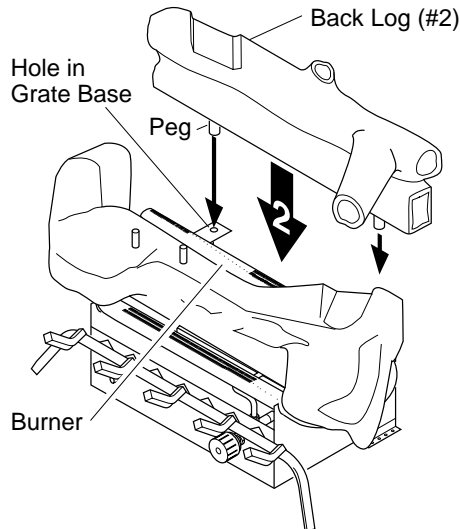

Figure 22 - Installing Back Log (#2)
- Locate pegs on the bottom of back log (#2). Slide these pegs into the holes in the grate base behind the burner (see Figure 22).